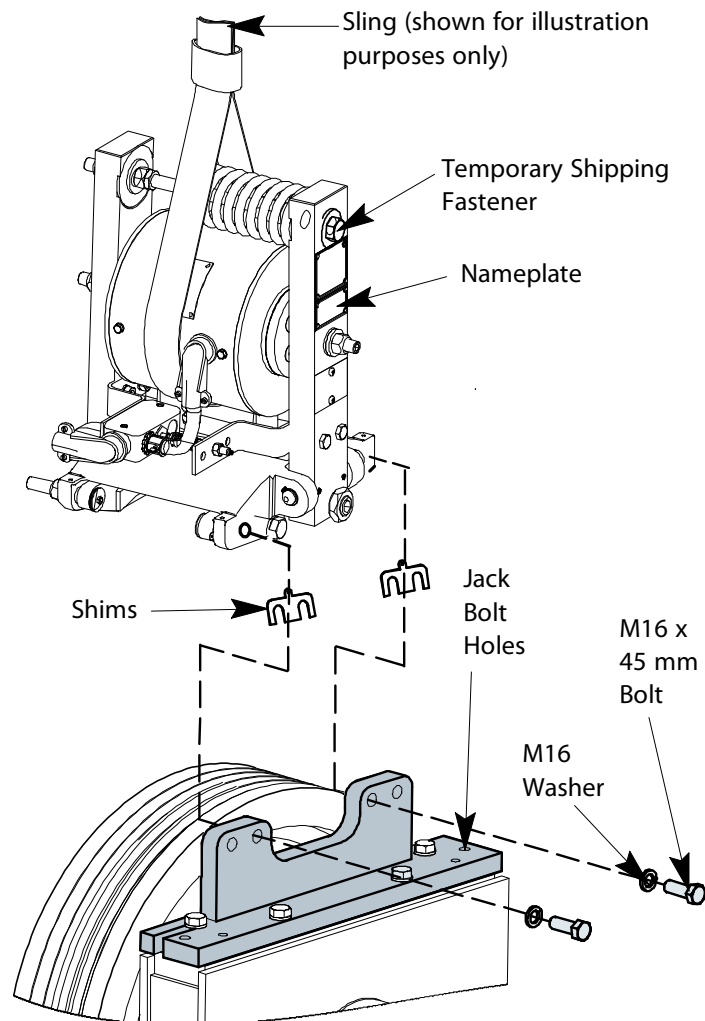

Figure 10 - Sheave Brake Mounting
6. Verify that the brake mount is parallel to the drive sheave—within 1/32 inch. Adjust the mounting bracket and shim as required. See Figure 10.
14. Use two (2) M16 x 45 mm long bolts and M16 lockwashers to install the sheave brake to the sheave brake mounting bracket (installed at the factory). See Figure 10.